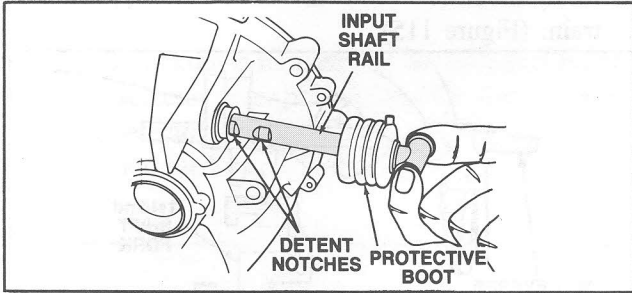

Figure 107 Input Shift Rail Installation
2. Install the input shift rail. (Figure 107).